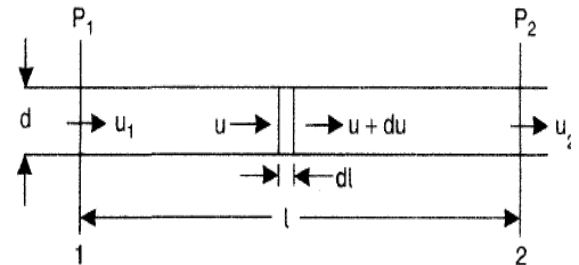

Fig.1
The general energy equation for the flow of any type of fluid through a pipe (as shown in Fig.1) has been expressed in the form (see Ch. Incompressible fluid in Lecture):
This equation (3) cannot be integrated directly because the velocity  $u$  increases as the pressure falls and is, therefore, a function of  $l$  (Figure 1). It is, therefore, convenient to work in terms of the mass velocity flow  $G=m/A$  or  $\rho u$  which remains constant throughout the length of pipe. Hence Eq.3 becomes (for turbulent flow)  $\alpha=1$ :